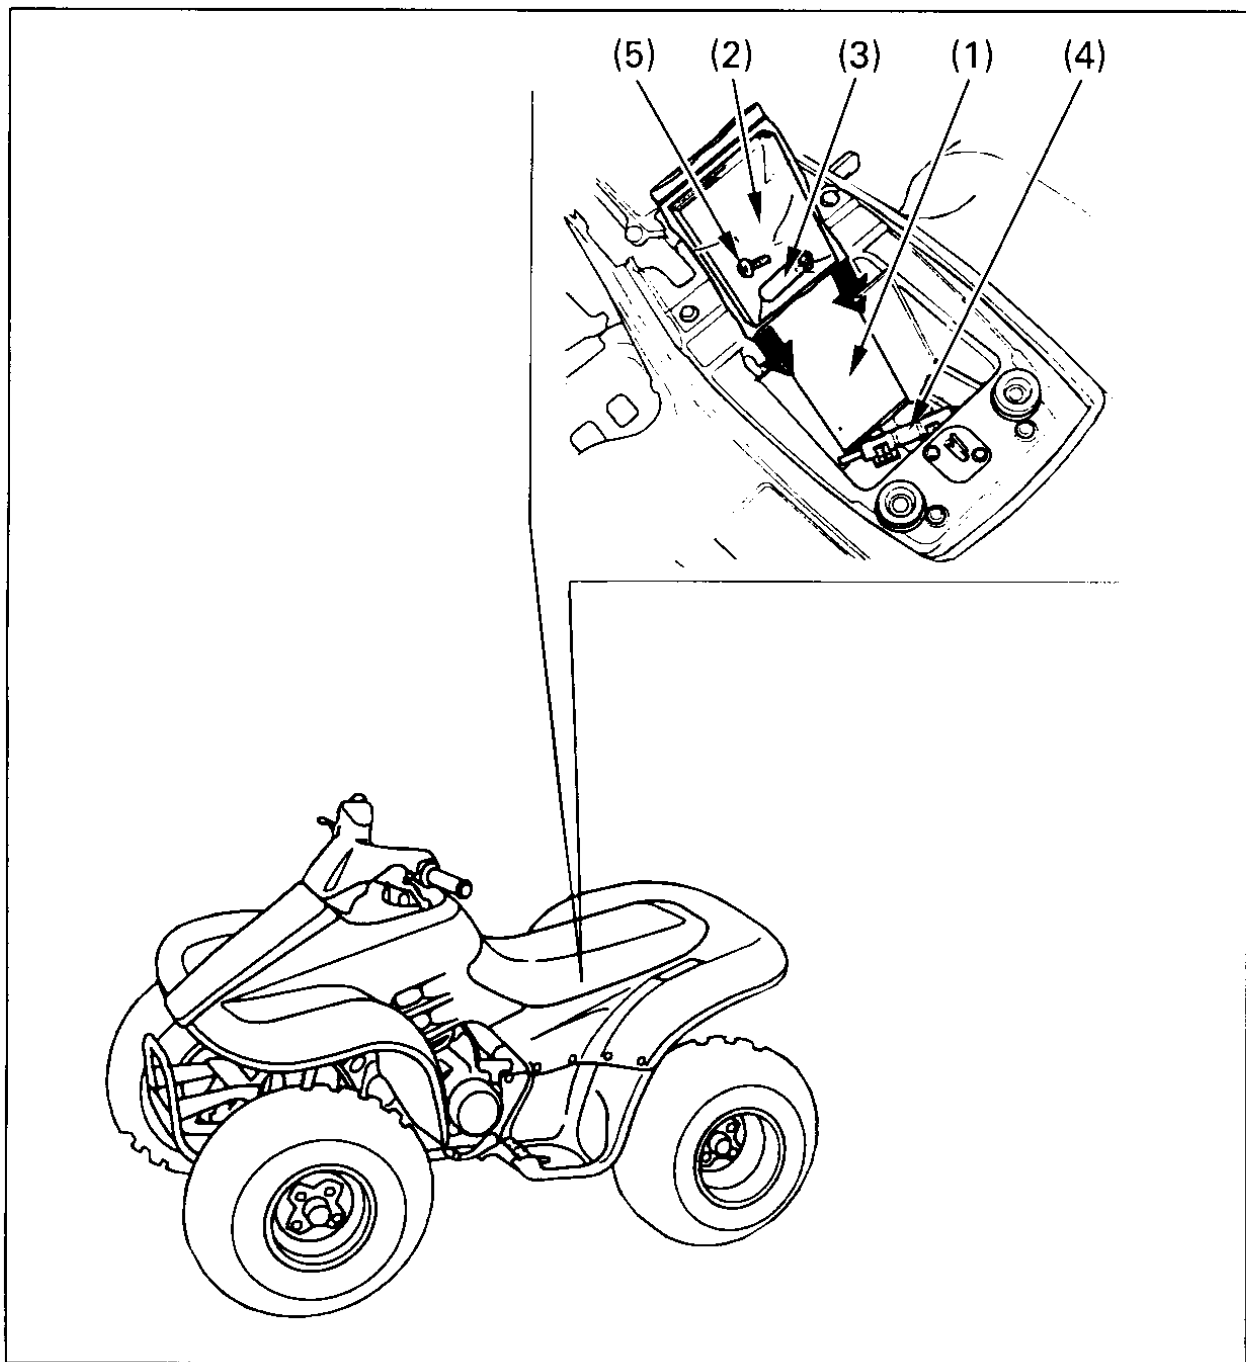

Fig. 2-22 (1) Storage compartment (3) Tire pressure gauge
The storage compartment (Fig. 2-22) can be reached by removing the seat (see page 147). Store the Owner's Manual and "Parents, Youngsters & ATVs" (2), tire pressure gauge (3) and tool kit (4) in the storage compartment.